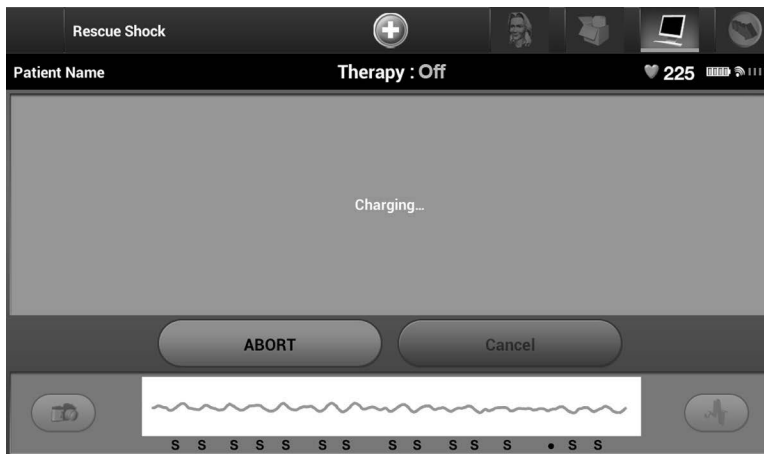

Figure 54: *Abort Rescue Shock*
2. Select the Shock button to begin charging the SQ-RX device for a Rescue shock. A red background screen with the word "Charging" will appear (Figure 54). Selecting the Abort button will prevent delivery of a rescue shock and will return to the Device Settings screen.